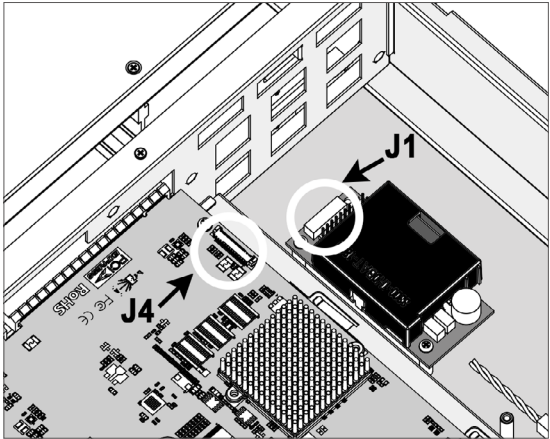

Figure C-4, Insert the cable connector into J1 & J4
3. Insert the cable connector into the **J1** (12-pin box header battery connector on ARC-6120-BAT-12G module), and also insert another side of the cable connector into the **J4** (14-pin box header battery connector on ARC-5088 backplane), as shown in Figure C-4.